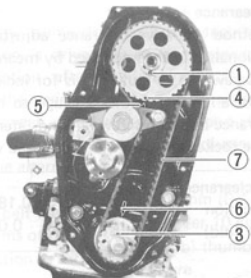

Fig. 4-140
4) You now have the two pulleys correctly related to each other in angular sense. Under this condition, put on the timing belt in such a way that portion of belt indicated as ⑦ is free of any slack.
5) After putting the belt, hook the spring on the bracket as shown in Fig. 4-140. The spring, with its own tension, adjust the belt tension to the specified value. Rotate the crankshaft clockwise fully twice and tighten the bolt and the nut to the specified torque.